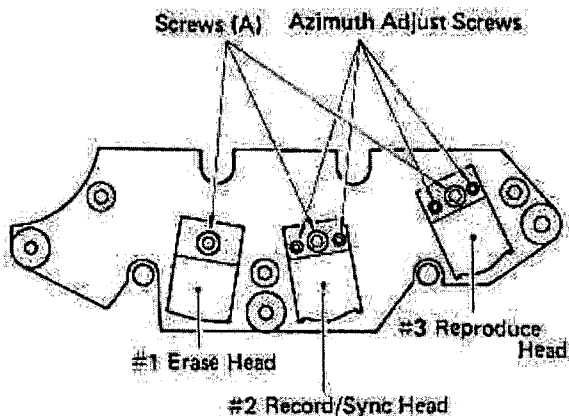

Fig. 9-5-5. Head Adjustment Screws
2. While observing the VU meters, temporarily increase the back tension to the left reel by lightly applying pressure by hand. If sufficient contact pressure is applied to the head while the tape is running, no change will be noticed on the meter when the back tension is increased. However, if insufficient pressure is applied to the head, the deflection needle will show increased deflection due to contact pressure caused by the back tension. To adjust, loosen the retaining screw (A), that'll be the center screw at the rear of the head as shown in Fig. 9-5-5. Then, change the direction of the head for proper alignment.
3. With the test tape signal at 16 kHz, determine the point where maximum level of each channel is obtained and retighten the retaining screws (A) at that position.